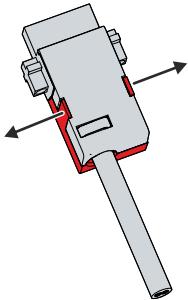

Fig. 17: CP29xx-2xxx_Disassembly of strain relief housing
1. Use your fingers to bend the latching lugs on the lower part slightly outward (see Fig. 17).